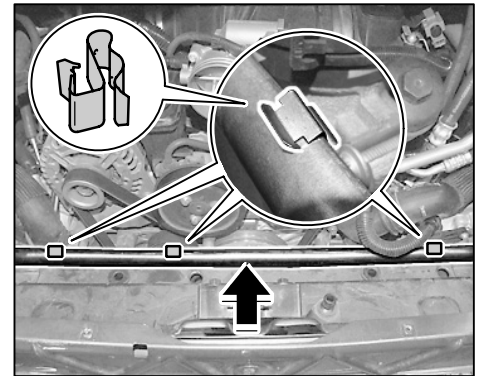

Figure 18
- 6.1 Fit hose clips on the engine carrier ⇒ *Figure 18 -arrow-*.